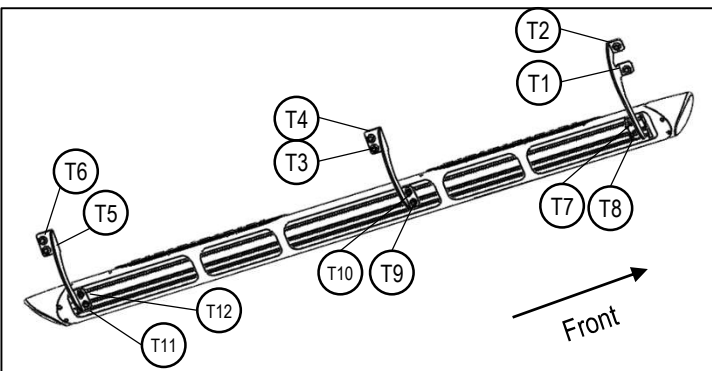

Figure 9
- Following the tightening sequence of brackets to rocker panel. Torque the “outside bolts” to 16 ft/lbs. Torque the “inside bolts” to 16 ft/lbs. See figure 9.